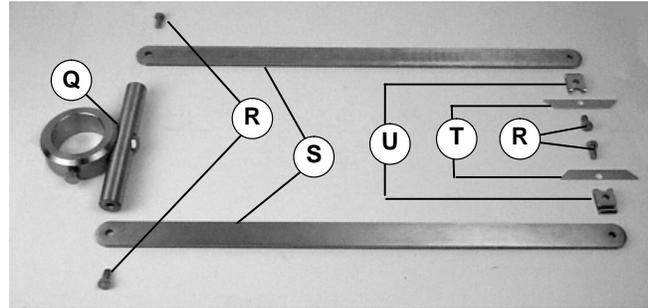

Figure 5
- Optional diagonal brace components (Figure 5) - long braces shown, short braces similar